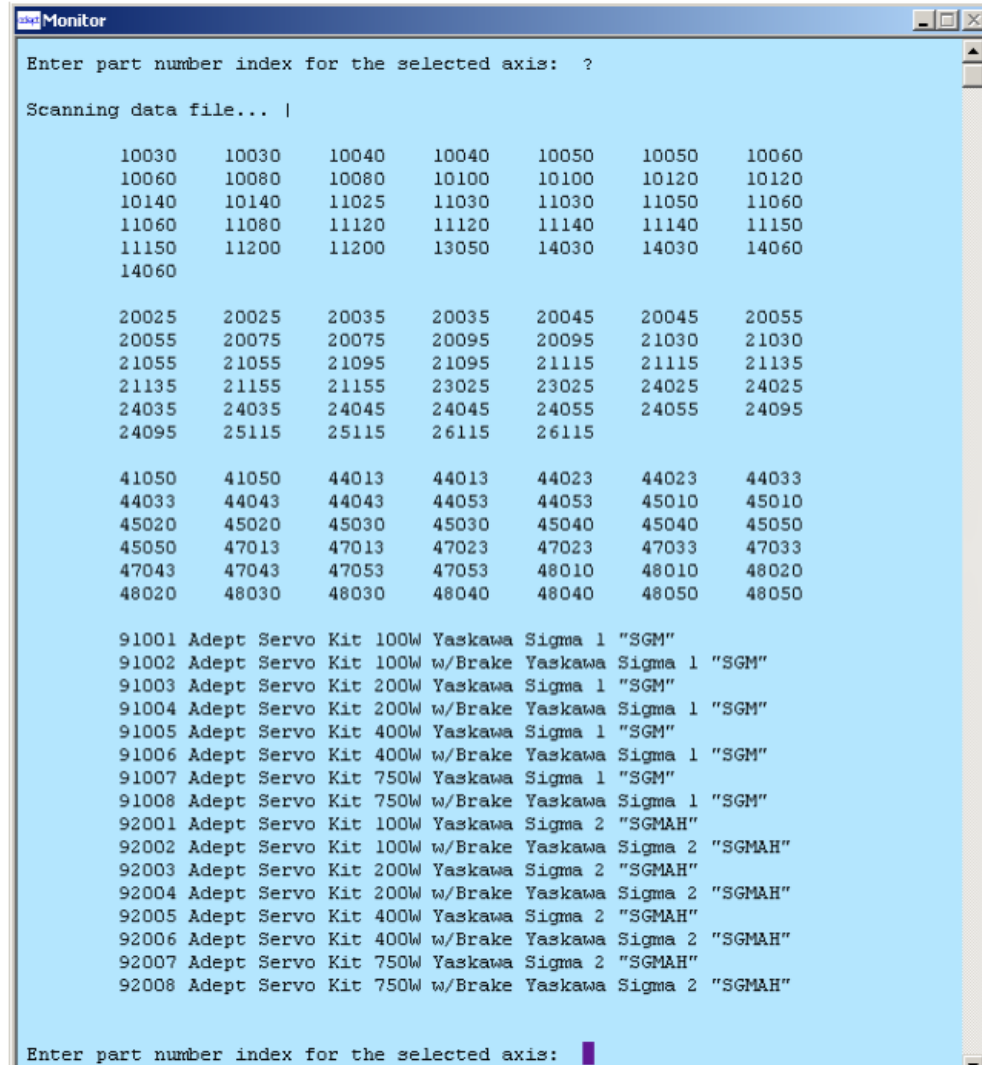

Figure 4-11. DC_SETUP (JTS Coordinated-Joint-Control Module)
9. When prompted to enter the part number index for the selected axis, enter the five-digit part number of the motor you are configuring, or type "?" and press ENTER to display a list of the supported motor part numbers. If you enter "?", a screen similar to the one shown in Figure 4-11 will be displayed.